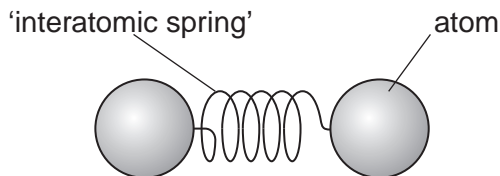

Fig. 7.1
- 4 (a) Atoms in a solid are held in position by electrical forces. These electrical forces can be represented by an imaginary 'interatomic spring' between neighbouring atoms, see Fig. 7.1.